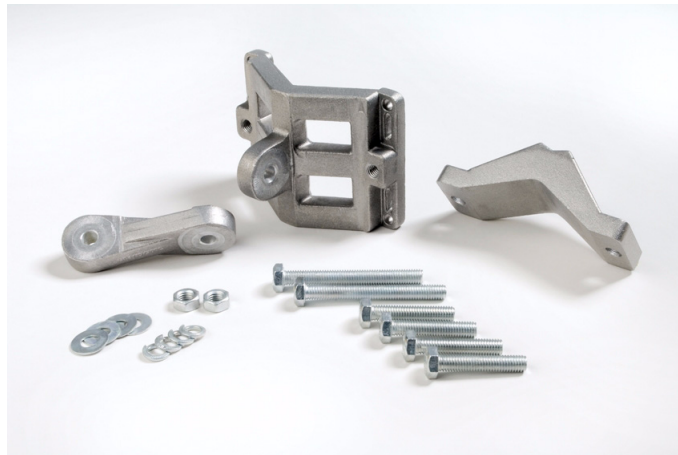

Figure 3-1: ODU Mounting kit
- An ODU mounting kit - see figure 3-1 below